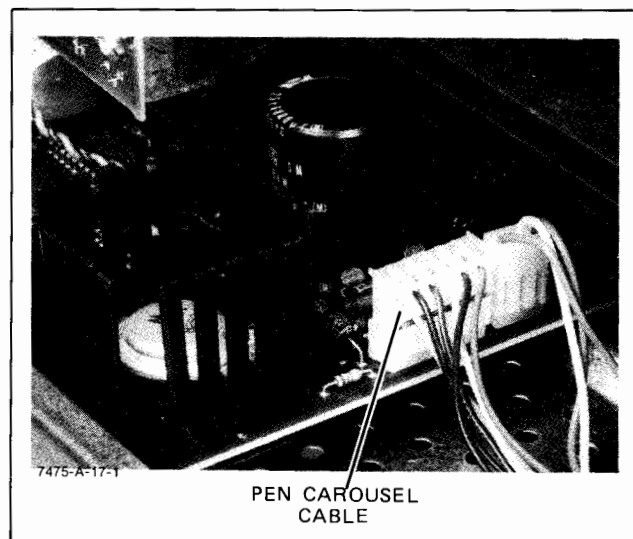

Figure 6-8. Pen Carousel Cable
- b. Disconnect the pen carousel cable from J8 on the main printed circuit assembly as shown in Figure 6-8.